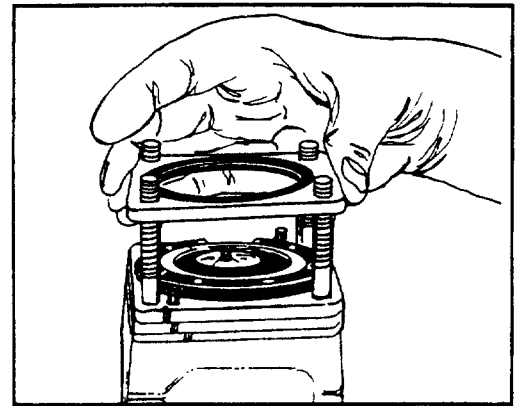

FIGURE 10.
11. Remove the valve ring (12), discard the two seal rings (3). See figures 10 and 11. The valve ring should be free of nicks and scoring.